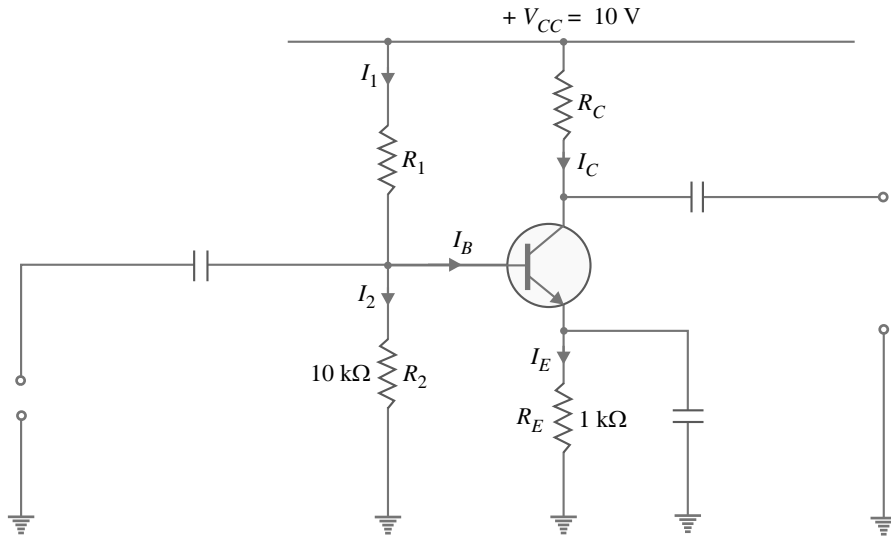

Fig. 7.38
**Example 7.33.** The potential divider circuit shown in Fig. 7.38 has the values as follows:  $I_E = 2 \text{ mA}$ ,  $I_B = 50 \mu\text{A}$ ,  $V_{BE} = 0.2 \text{ V}$ ,  $R_E = 1 \text{ k}\Omega$ ,  $R_2 = 10 \text{ k}\Omega$  and  $V_{CC} = 10 \text{ V}$ . Find the value of  $R_1$ .